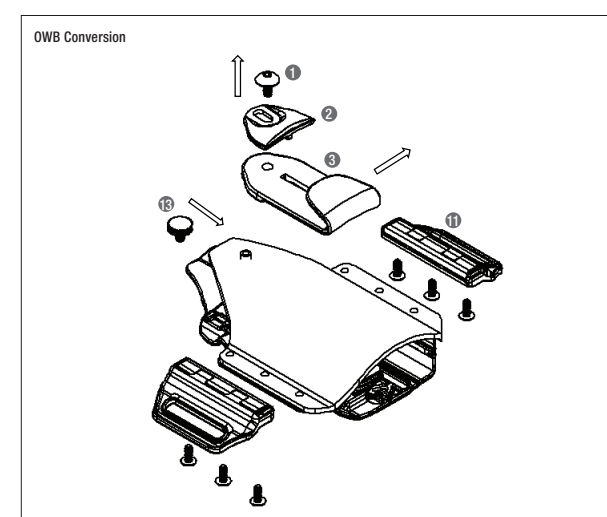

Figure 7
As seen in Figure 7, each of the two OWB Belt Loops (11) can be easily installed and replace either the IWB Blank (4) or Tuck Device (8) components of the IWB configuration. Simply unscrew one set of the three Side Screws (5) at a time, swap out the Tuck Device and IWB Blank component with an OWB Belt Loop and reinstall the screws. Both OWB Belt Loops need to be installed to maintain a function holster and OWB mounting style. These belt loops will accommodate up to an 1-3/4" belt size for a flexible style belt and up to 1-5/8" for a rigid style belt.
The holster can be reconfigured, from the default IWB, to an outside-waistband (OWB) wear style. As seen in Figure 7, there are two easy steps to achieve this.